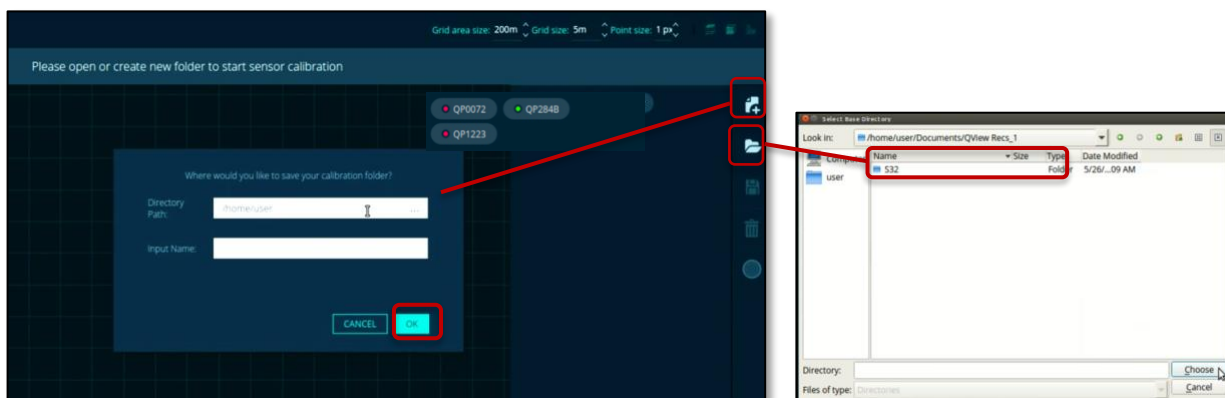

Figure 52. Calibrate Tab: Where to Store Calibration Files
1. Determine where to save the calibration data files, including `transform_alignment.xml` and `calibration.ini`. See transform_alignment.xml File (page 93), calibration.ini File (page 95), and Figure 52. Calibrate Tab: Where to Store Calibration Files.